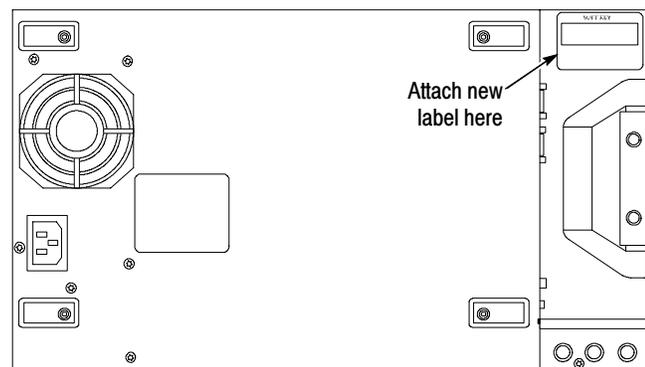

Figure 1: Label location on the notched-in portion of the rear panel
7. Attach the label to the notched-in portion of the rear panel (see Figure 1). You can attach the new label over the existing one.